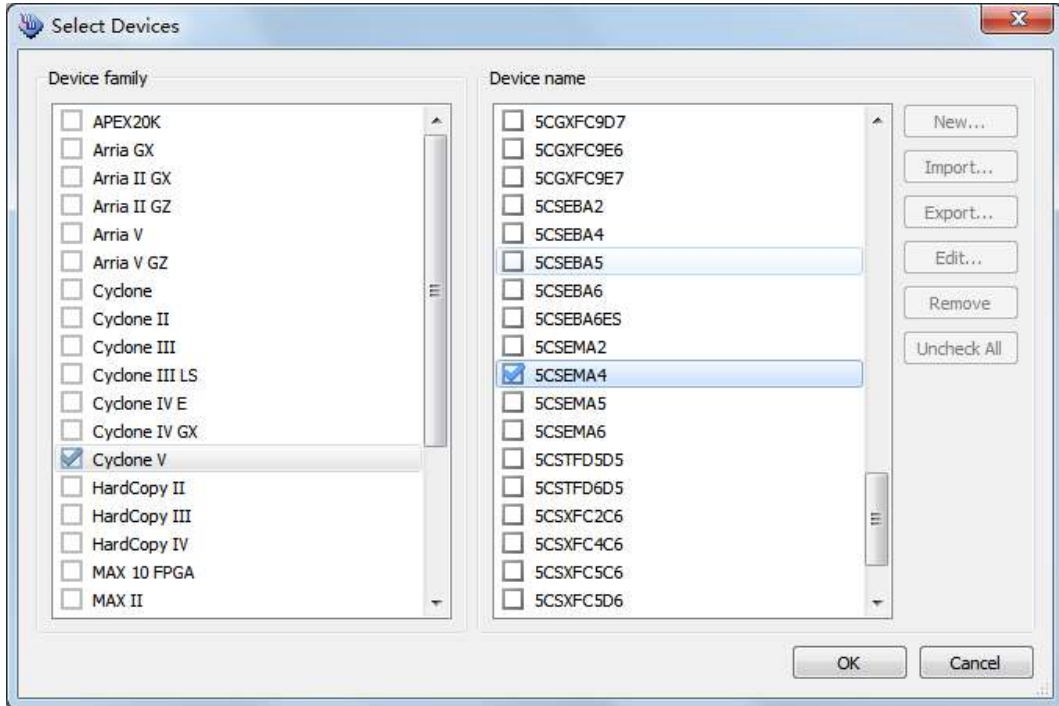

Figure 7-5 “Select Devices” page
12. Select the targeted FPGA to be programmed into the EPCS, as shown in Figure 7-5.